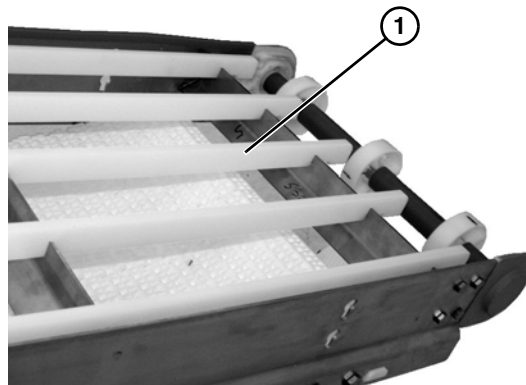

Figure 47
2. Remove worn wear strips (**Figure 47, item 1**) from frame notches.